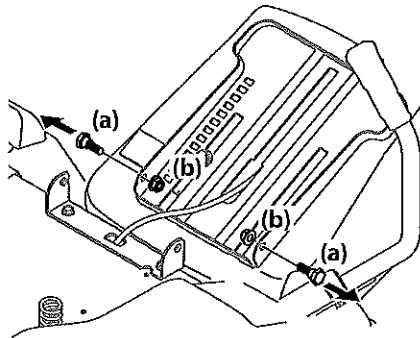

Figure 2-8
2. Remove the two shoulder screws (a) and flange lock nuts (b) in the seat pan as shown in Figure 2-8.